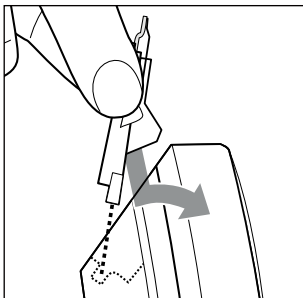

Fig. 10
- 2) Remove hair residue from the shaving head ❶ with the cleaning brush ❹ (supplied).
- 3) Clean the shaving head ❶ under running water. Do not use any other liquids for cleaning.
- 4) Allow the shaving head ❶ to dry.
- 5) Add a few drops of the supplied blade oil ❺ to the cutting blade of the shaving head ❶ and distribute it evenly. Wipe off any excess oil with a soft cloth.
- 6) Guide the nose of the shaving head **1** under the rear edge of the housing. Press the shaving head **1** down into the notch and then tip it forward until it audibly engages in the appliance (see fig. 10).